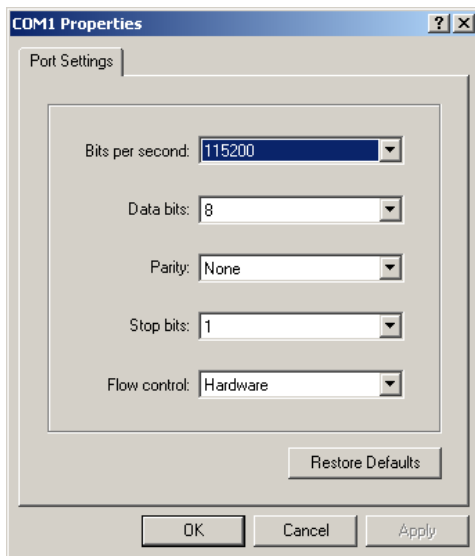

Figure 2-24 COMn Properties Dialog Box
7. Ensure the *Connect using* field displays **COM1** or **COM2** (depending on the serial communication port connection to the switch), and click OK. The *COMn Properties* dialog box displays, where *n* is 1 or 2 (Figure 2-24 on page 2-42).